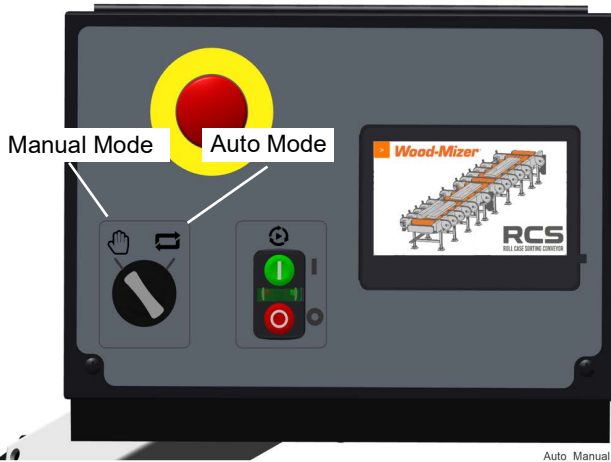

FIG. 3-1
1. Use the control switch on the operator assembly to toggle to Auto or Manual Mode. See FIG. 3-1